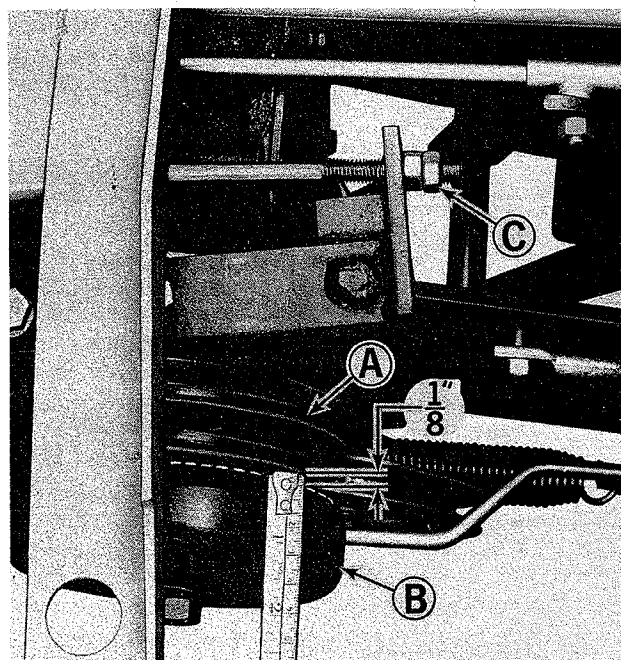

Figure 13. Power take off clutch.
See figure 13. The power take off clutch is properly adjusted when pulley (A) moves $\frac{1}{8}$ " when the power take off control lever is engaged and disengaged. If adjustment is required, proceed as follows:
3. Observe the movement of pulley (A) in relation to cup (B) as the power take off control is moved slowly from the engaged to disengaged position. If the pulley (A) moves more or less than $\frac{1}{8}$ " adjustment is required.
4. Turn the rear most nut at (C) counter-clockwise to loosen it slightly. To increase the amount pulley (A) travels turn the nuts at (C) clockwise. To decrease travel of pulley (A), turn the nuts counter-clockwise. Adjust the nuts at (C) and observe the travel of pulleys (A) as the power take off lever is engaged and disengaged. When adjustment has been made so the pulley (A) travels $\frac{1}{8}$ " tighten the rear most nut at (C) against the forward nut to lock them in place.